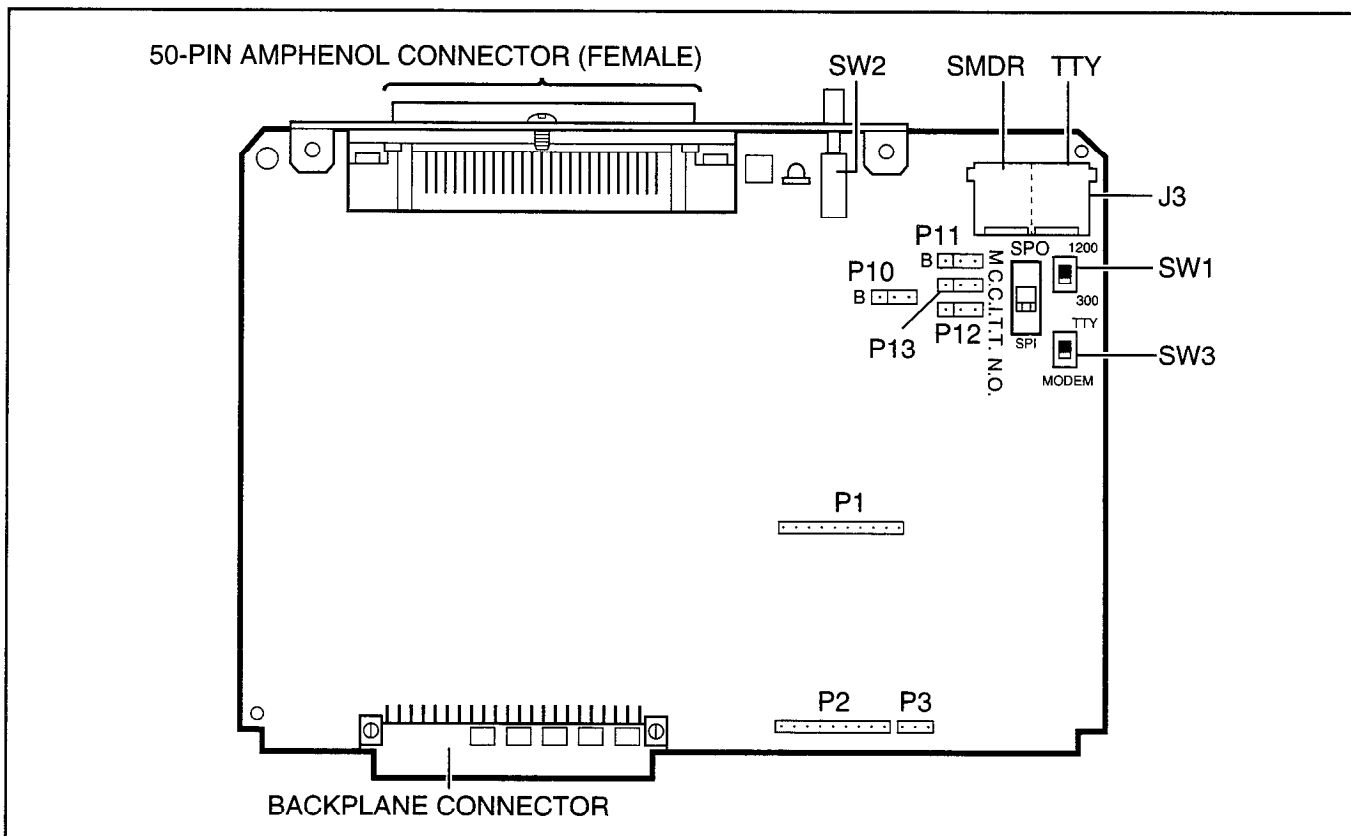
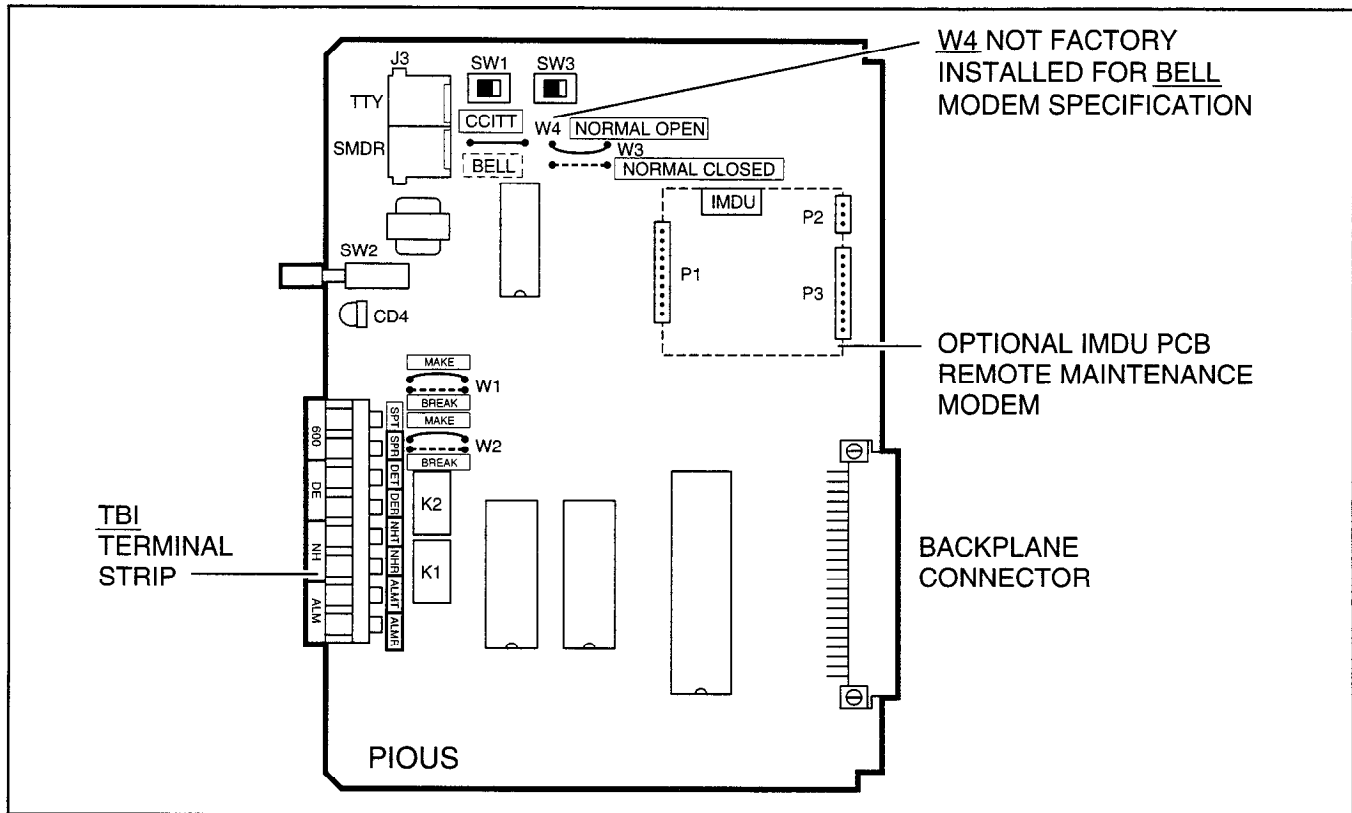

FIGURE 5-18
FIGURE 5-19
12.02 PIOU controls, indicators, and interface connectors are shown in Figure 5-18 and described in Table 5-F. PIOUS information is provided in Figure 5-19 and Table 5-G.